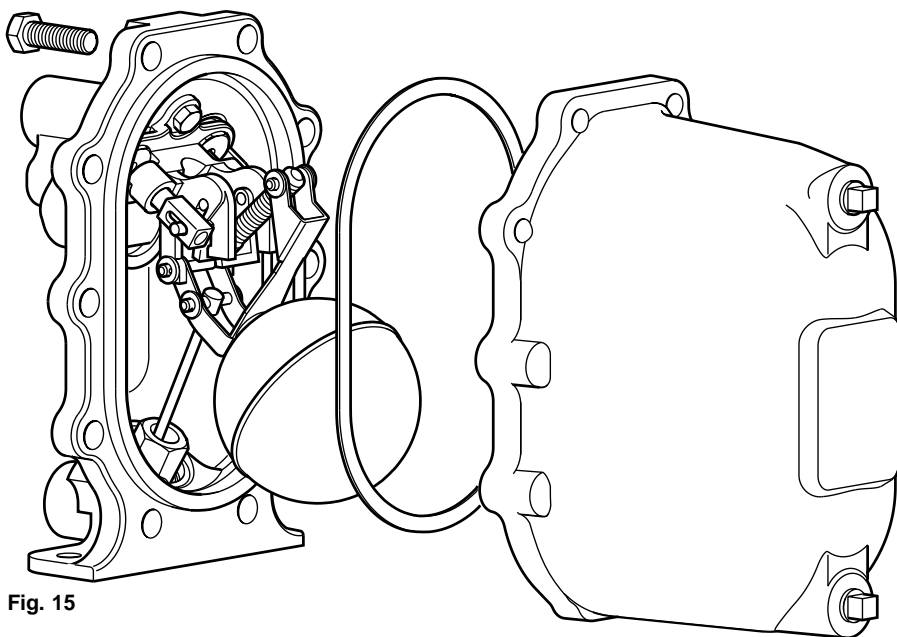

Fig. 15
1. Disconnect all connections to the cover. Remove the cover bolts using a 19 mm A/F socket, then carefully slide the cover assembly away from the body (225 mm (9") minimum withdrawal distance will be needed). Lift the cover assembly to a bench or other convenient working surface and clamp securely, avoiding contact with the gasket face (See Fig. 15).